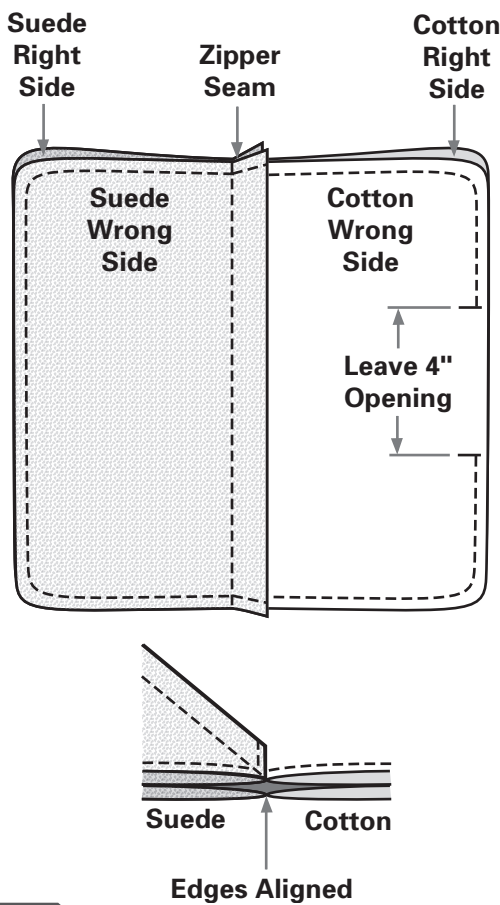

Fig. 5-6
9. Open the zipper. Then place the fabric pieces on a flat surface with the right sides of the suede pieces facing each other and the right sides of the cotton pieces facing each other. Use basting tape to adhere the edges together, making sure the edges are aligned at the zipper. Sew the layers together, leaving a 4-inch (10-cm) opening in the long edge of the cotton pieces. (Fig. 5-6)